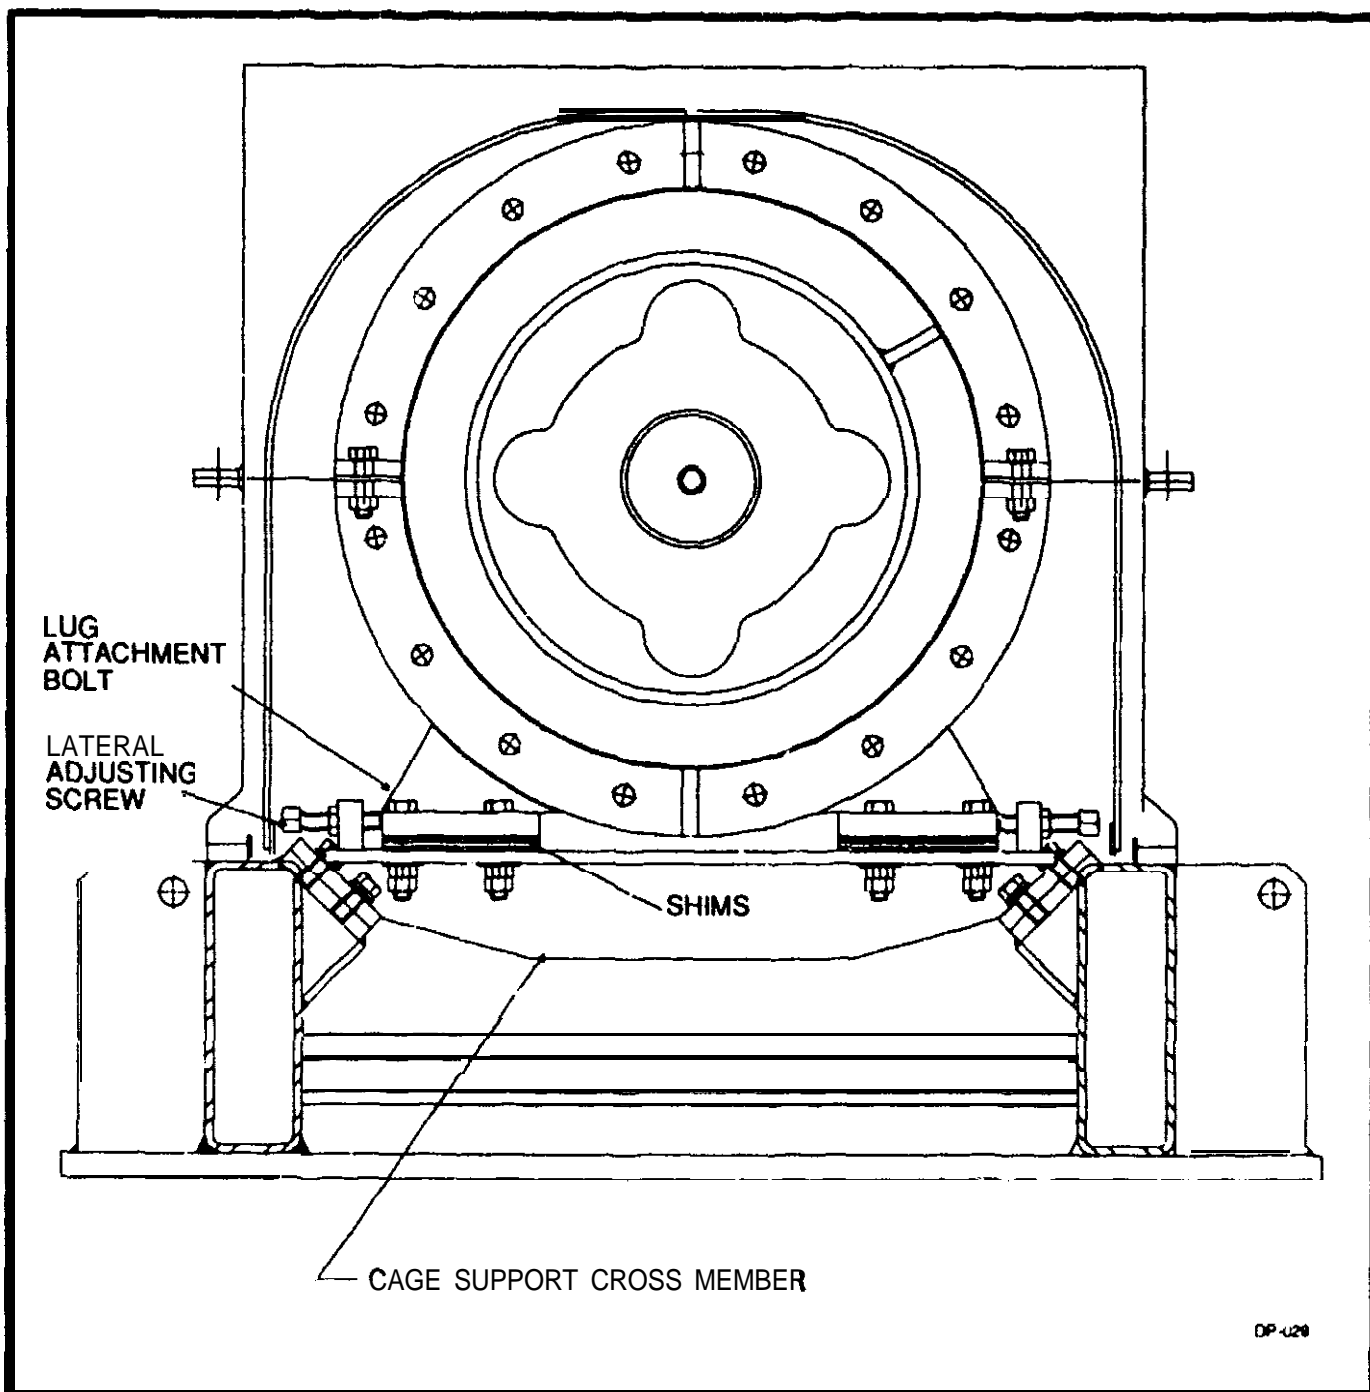

Figure 4-2
- a. Refer to Figure 4-2. Remove the attaching bolts on both (**left** and **right**) cage lugs. Loosen the jam nuts and back off the lateral adjusting screws $\frac{1}{2}$ turn (both sides).